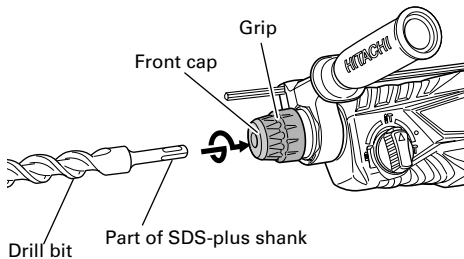

Fig. 1
4. Mounting the drill bit (Fig. 1)
- (1) Clean the shank portion of the drill bit.
- (2) Insert the drill bit in a twisting manner into the tool holder until it latches itself (Fig. 1).